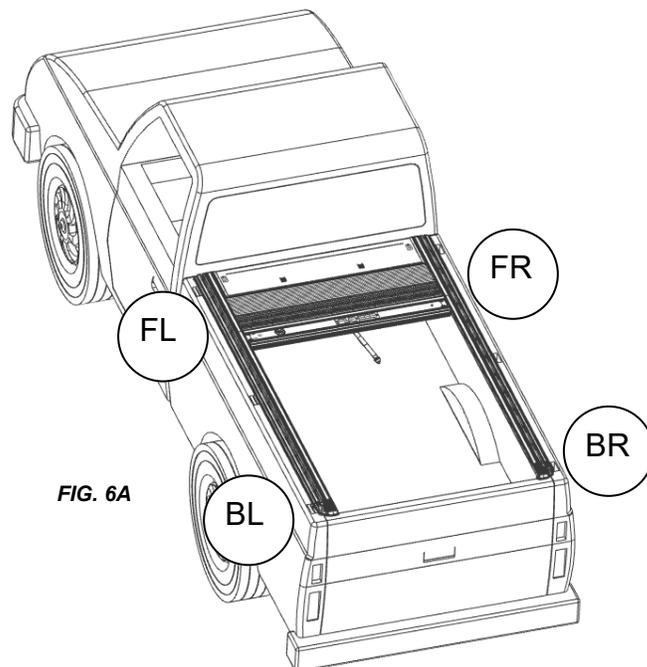

FIG. 6A
Slide the clamp extensions from the tailgate end of each rail as pictured in Figure 5A-5E. Ensure that your tailgate end and cab end extensions are in the correct orientation. Each clamp extension is labeled for front left (FL), front right (FR), back left (BL), and back right (BR). The extensions go on the corners shown in figure 6A.